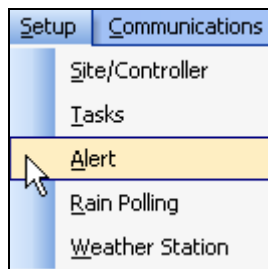

Figure 8.0.1
1. From the toolbar at the top of the screen select **Setup** then scroll down to **Alert** and click on it (Figure 8.0.1).